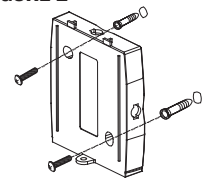

FIGURE 4
7. Attach the fixture to the back cover. Make sure the the holes on the fixture align with the tabs on the back plate. (see Fig.4)